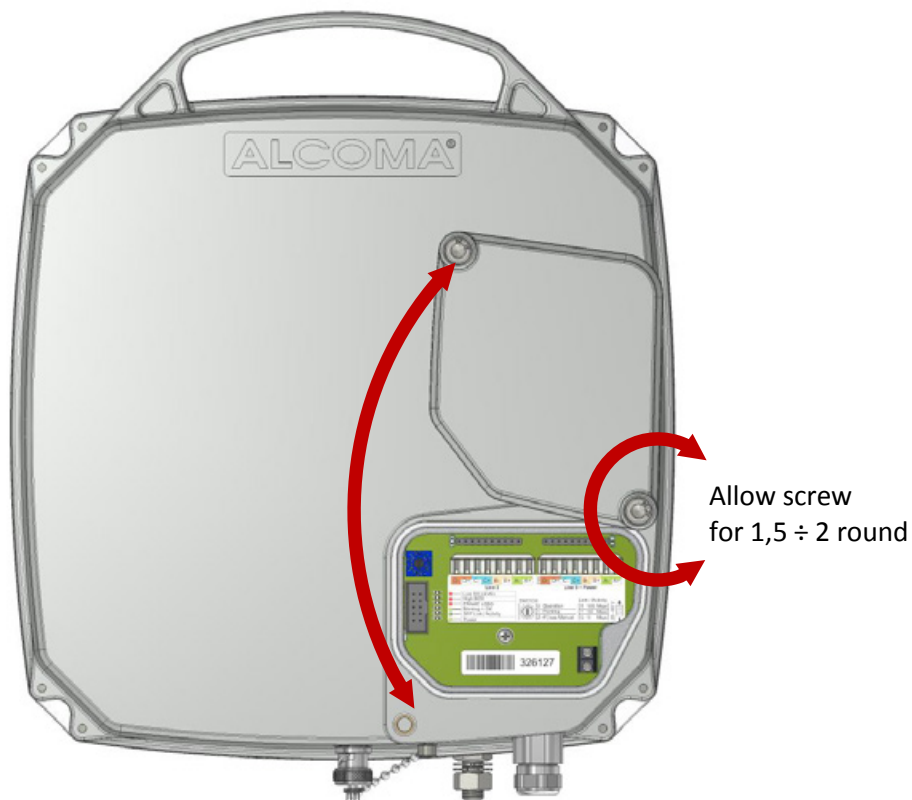

Figure 21 Manipulation with the user space cover
- The front panel with PCB is removed using a screwdriver (figure 4) or the cover of the terminal box space in ODU is opened using an Allen wrench no. 5 (figure 21).